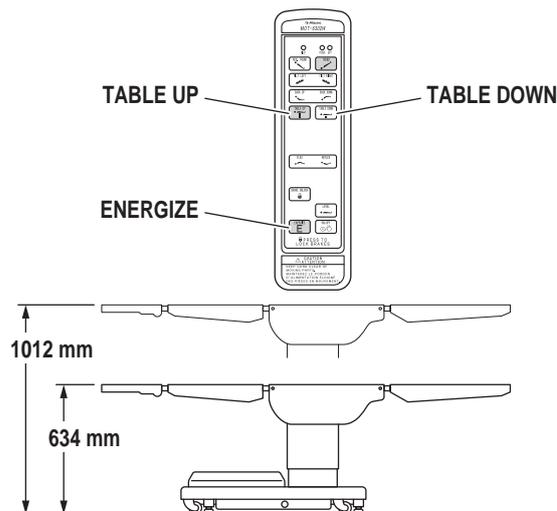

Figure 2-11. Elevation Function
e. Elevation To raise table top, press the ENERGIZE button and then the TABLE UP button (figure 2-11). The table will lift a patient weight of 450kg up to a maximum height of 1012mm. To lower the table top, press the ENERGIZE button and then the TABLE DOWN button. The table top will go down to a minimum height of 634mm.